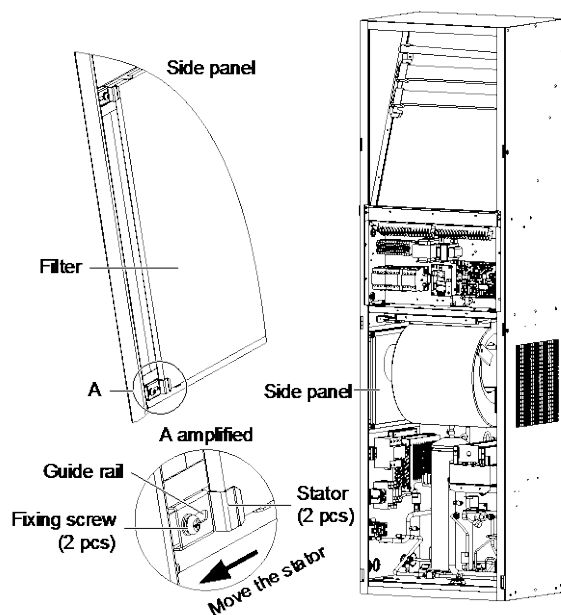

Figure 4-2
- Take out the filter on the side panel, as depicted in Figure 4-2.